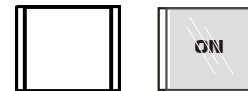

Figure 4: Button Cap Orientation Before and After the Insertion of a Label
4. Hold the button cap so that it is oriented as shown in Figure 4 with the “wings” on the left and right sides.